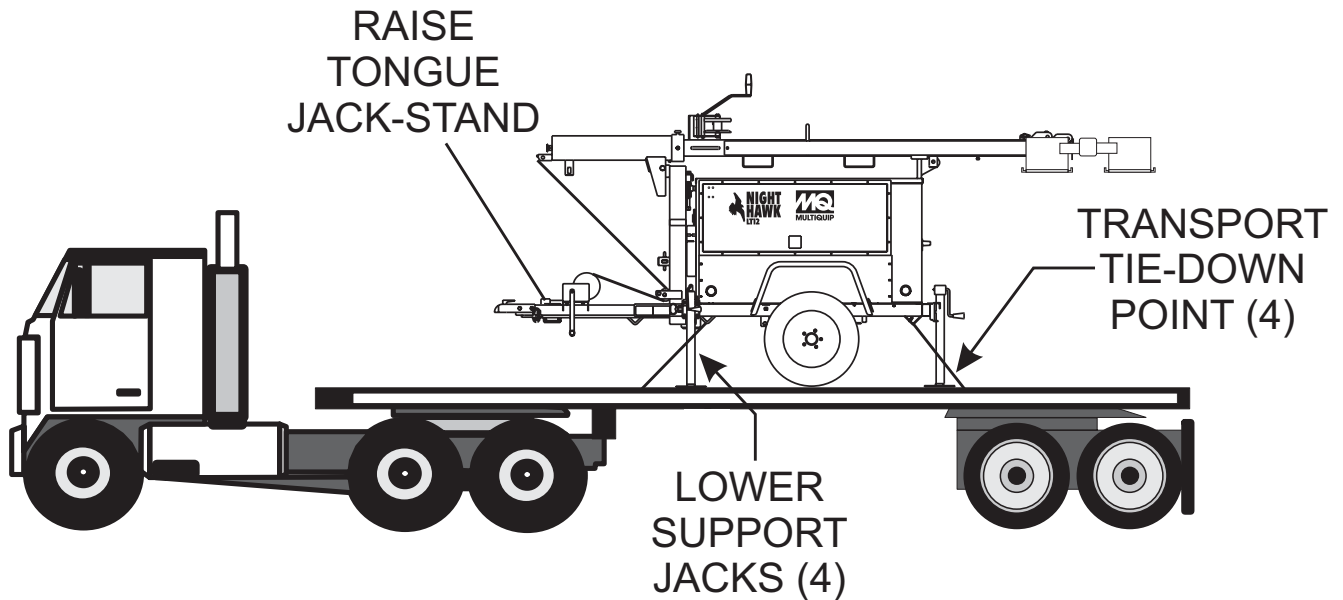

Figure 1. Light Tower Transport
1. Load the unit on a flatbed trailer truck (Figure 1) with the front jack stand retracted and in the horizontal position so the foot does not make contact with the trailer deck floor.